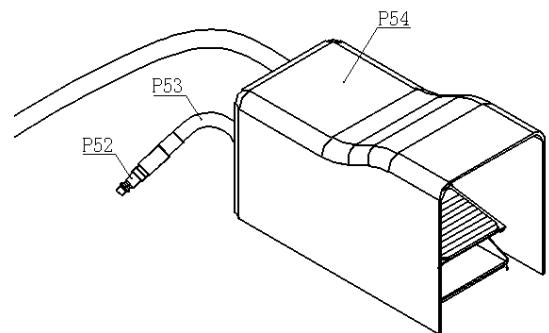

Figure 9
Connecting the air hose (P52) of the air foot valve (P54) to the compressor. (refer to fig. 9)
Connecting the air hose (P52) of air foot valve to the compressor. (fig. 9)
To stop the movement of the piston rod: stop pumping the handle tube (50) or release the air foot valve (P54), the piston rod will stop moving. Then turn the handle lever (99) of selector valve to position 2. (fig. 9)